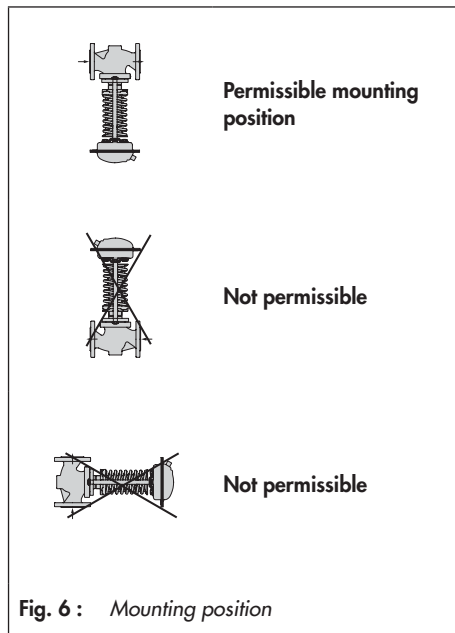

Fig. 6 : Mounting position
- Install the actuator housing with the set point springs suspended downward in horizontal pipelines (see Fig. 6).